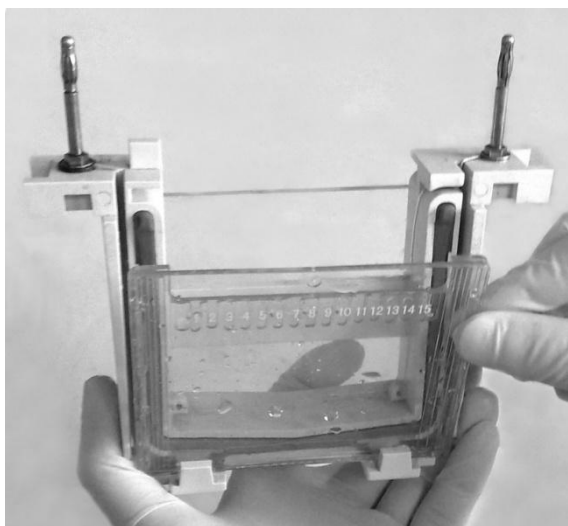

Figure 1. Inset the Express Gel into cassette
2. Remove Express PAGE Gel from the pouch and insert into the gel running apparatus (see Figure 1). Refer to the apparatus manufacturer's instructions.